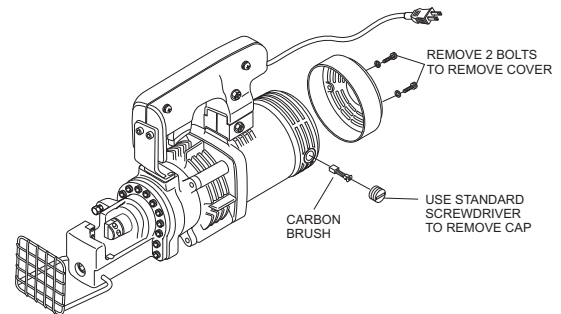

Figure 5. Replacing Carbon Brushes (HBC19A)
2. For the HBC19A, remove the 2 bolts holding the cover using a 4mm allen-head wrench then remove the cover to access the two carbon brush caps (one on each side). See Figure 5.
3. Remove the carbon brush cap of the motor outer frame using a standard screwdriver. See Figures 5 and 6.